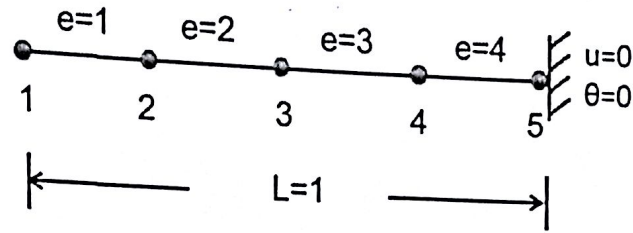

Figure 3. Four element mesh. (2-node linear elements).
- Q. 2** Q2 is based on class lectures on the Quasi-Static case for the Adiabatic split of the thermoelasticity problem. The element stiffness matrix was developed for 1D linear shape functions using 1-point integration rule. A linear system was developed (in equation (51) of class lectures) that corresponds to the situation of zero Dirichlet BCs at the right node (node-2) of the one-element mesh.
- 2) Now consider the 4-element mesh with zero Dirichlet BCs at global node-5 (shown in Fig 3 below). Develop the linear system for this problem. Show all your work.